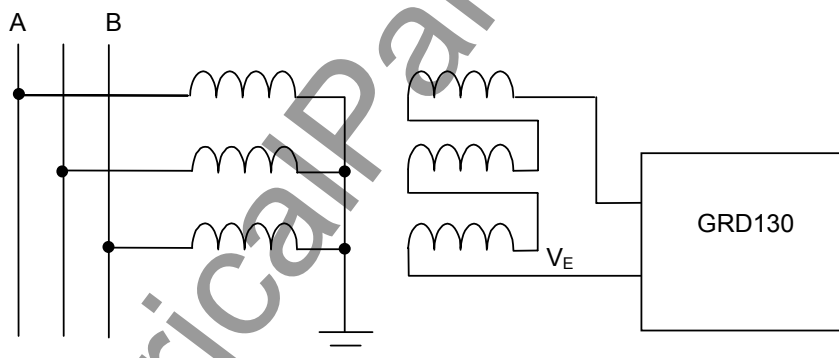

Figure 2.3.1 Earth Fault Detection on Unearthed System
- Measuring the zero sequence voltage produced by VT residual connection (broken-delta connection) as shown in Figure 2.3.1.